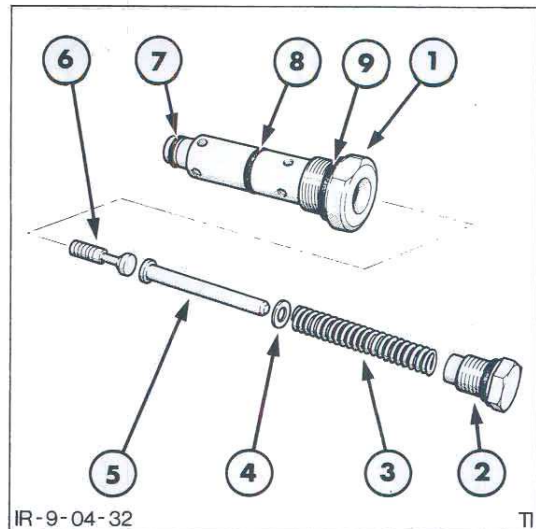

Figure 36
2. Into the unload valve body install the poppet, the poppet rod, spring, shims (where fitted), the plug and 'O' ring, Figure 36, tightening the plug to the specified torque. See "Specifications" – Chapter 11.